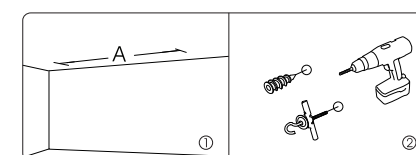

Figure 13
1. Drill two appropriately sized holes in the ceiling with a drill, ensuring that the line formed by the two holes is parallel to the wall. Insert two expansion screws with hooks (not provided) into these holes. (As shown in Figure 13)